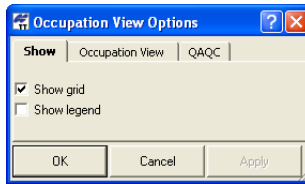

Figure 4-51. Occupation View Show Options
2. On the *Show* tab, enable the desired settings (Figure 4-51). Click **Apply** to save the settings and make further changes.